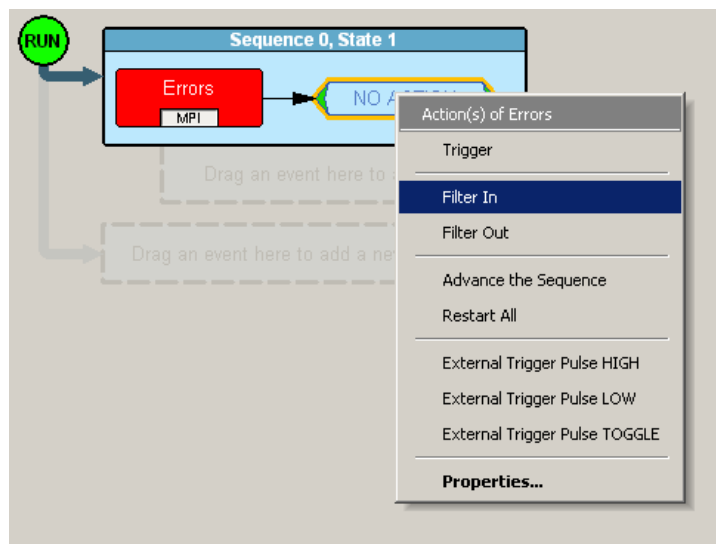

Figure 12.35 Example 4: Assigning the Action
- Step 3** Right-click in the **Action** box to the right of the MPI Error button. The Action pop-up menu appears (Figure 12.35).